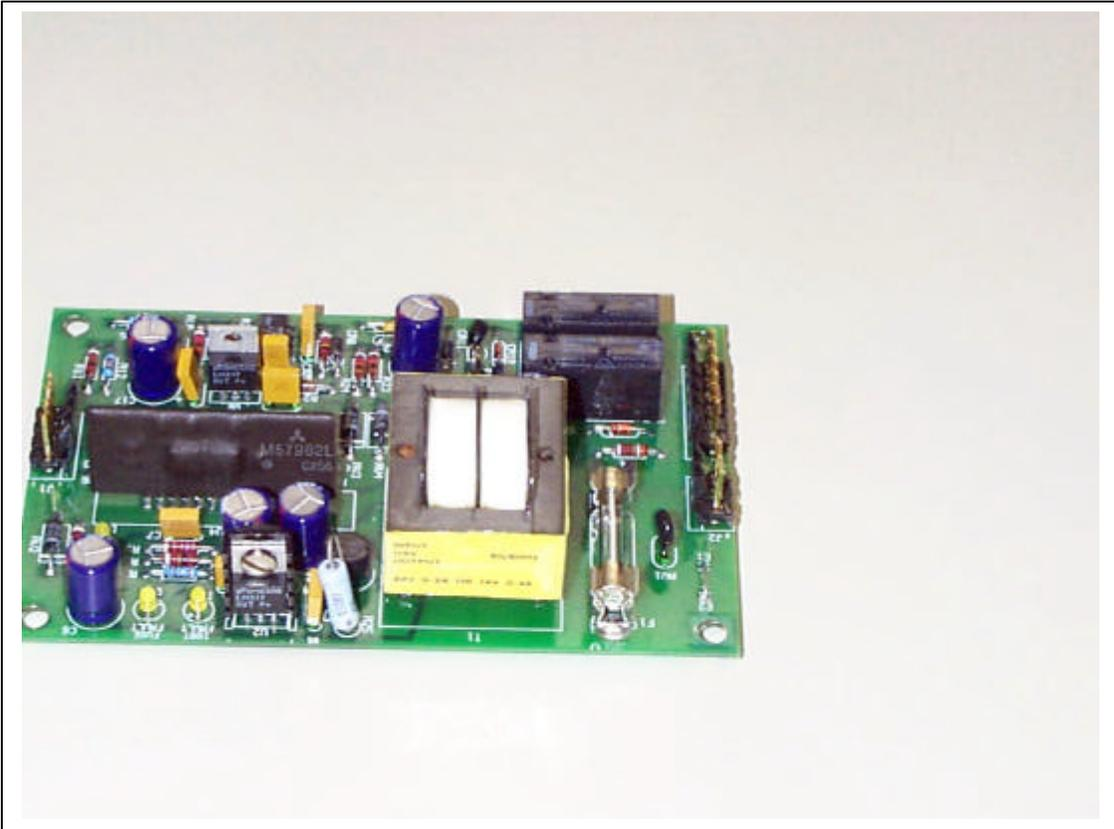

Figure 1
1. Figure 1 shows you what a replacement IGBT card looks like. Notice the yellow LED's towards the front left hand side. The old IGBT's have Red LED's towards the front left hand side. You should also notice that there are 3 moxex connectors where connections are made on this board.